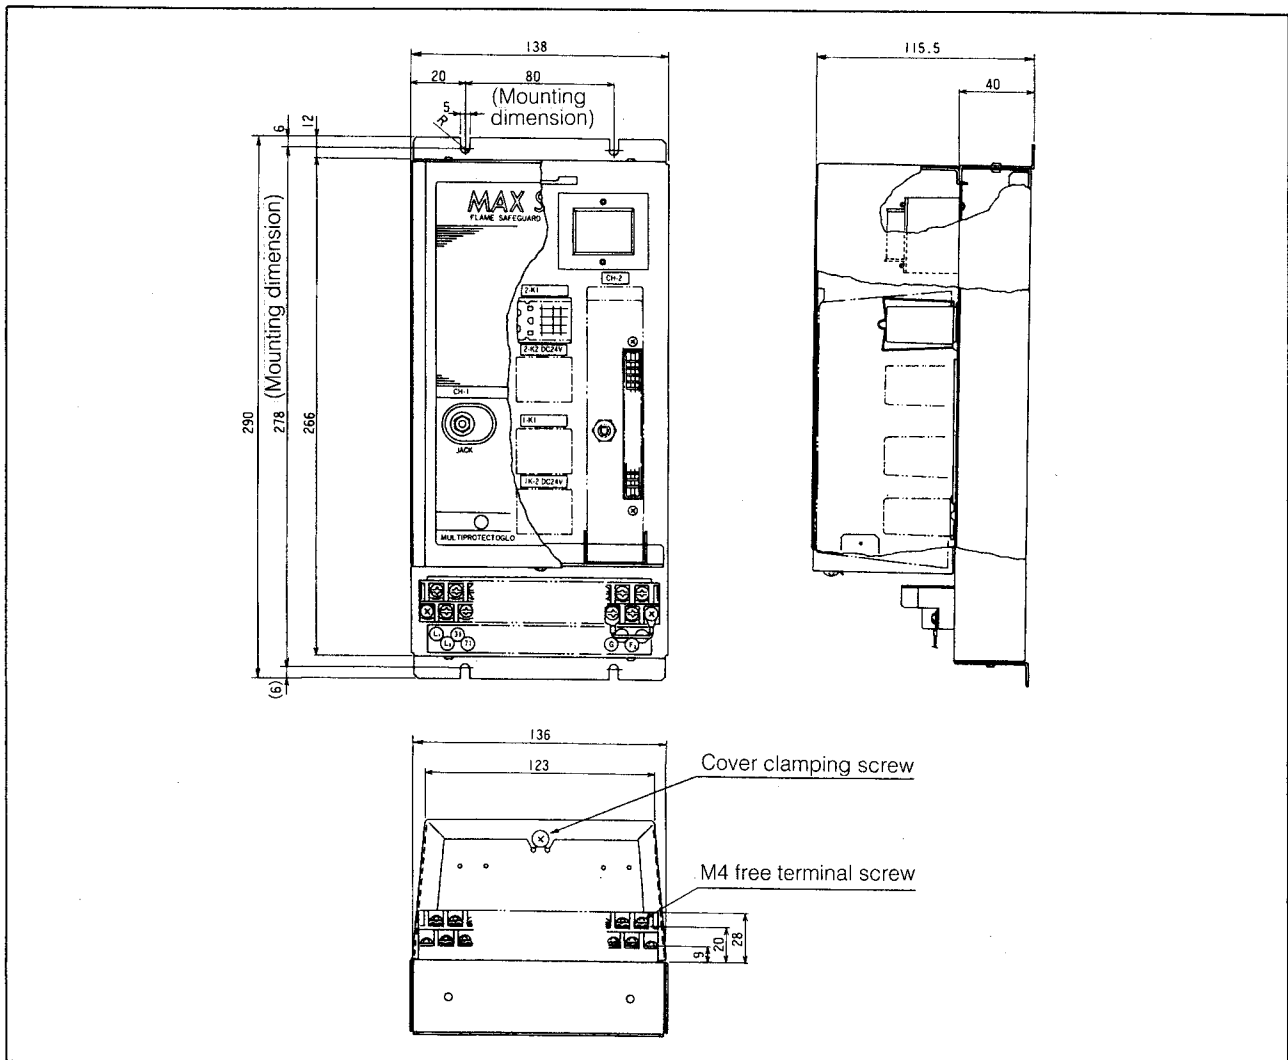

Fig. 1 R4332B (2cH)
Mount the instrument so that the terminal board faces downward as shown in Fig. 1.
- (1) Mount the instrument by tightening the four mounting screws as shown in Fig. 1.